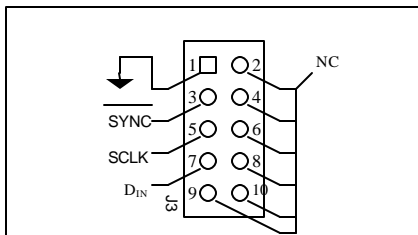

Figure 3: J3 Serial Interface Header
3. Connect your Logic Generator to Serial Interface header J3. Refer to *Figure 3* below for connection details.